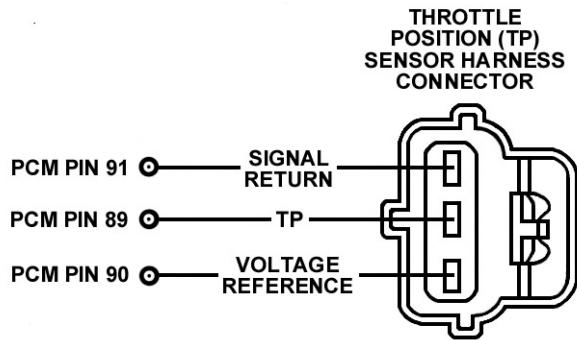

Figure 7B Throttle Position Electric Connector Terminal Layout
1. Mount the WOT Switch (18) in a convenient location. The inner fenderwell is a good location. Use the supplied sheet metal screws to mount it, if desired.
2. Cut the three wires going to the TPS plug half way between the TPS and where the wires go into the harness. The factory insulation will have to be trimmed on both sides of the cut before new connectors can be terminated. The color code of the wiring harness maybe different from model to model. Refer to Fig. 7B to identify the correct wire to complete installation.